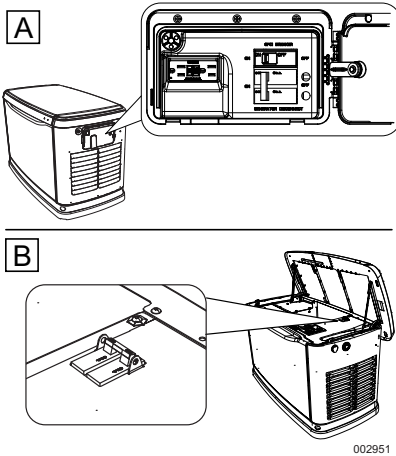

Figure 3-3. Main Circuit Breaker Locations
See Figure 3-3. Depending on the generator model, the main circuit breaker is located either in an external breaker box (A), or internally near the controller (B).